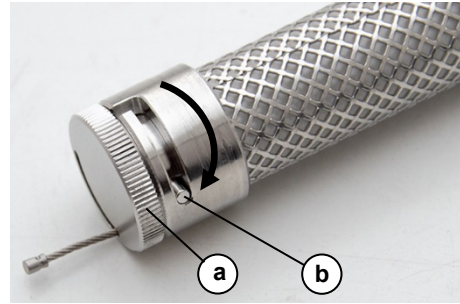

Fig. 2: Cleanfinity Filter with bayonet lock
- ▶ When using the Cleanfinity Filter, make sure that the sealing cap (Fig. 2, pos. a) on the end of the filter has been closed correctly before inserting it. To do so, slide the sealing cap (pos. a) into the filter to its fullest extent and close the bayonet lock by turning it clockwise (Fig. 2, pos. b) into locking position.